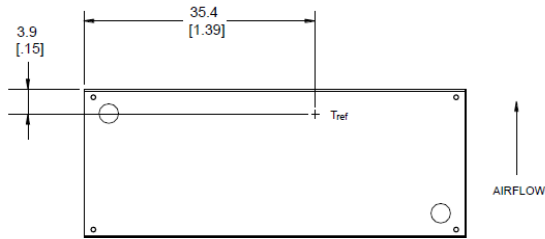
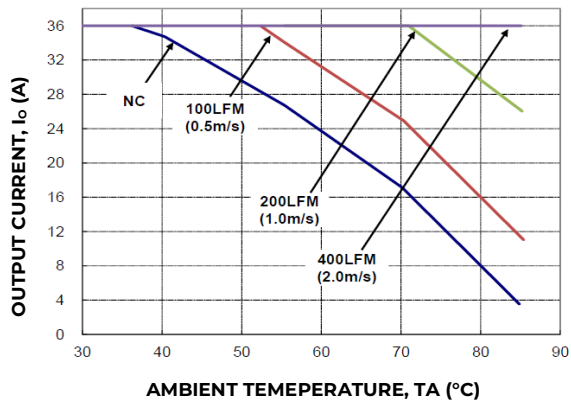

**Figure 13. Tref Temperature Measurement Locations for Open Frame Module.**
**Figure 14. Tref Temperature Measurement Location for Module with Heatplate.**
To provide protection under certain fault conditions, the unit is equipped with a thermal shutdown circuit. The unit will shutdown if the thermal reference point,  $T_{ref}$ , exceeds 135°C (Figure 13, typical) or 120°C (Figure 14, typical), but the thermal shutdown is not intended as a guarantee that the unit will survive temperatures beyond its rating. The module will Overtemperature Protection automatically restart upon cool-down to a safe temperature.
The thermal reference point,  $T_{\text{ref1}}$  and  $T_{\text{ref2}}$  used in the specifications for open frame module is shown in Figure 13. For reliable operation this temperature should not exceed 122°C and 123°C
The thermal reference point,  $T_{\text{ref}}$ , used in the specifications for modules with heatplate is shown in Figure 14. For reliable operation this temperature should not exceed 100°C.